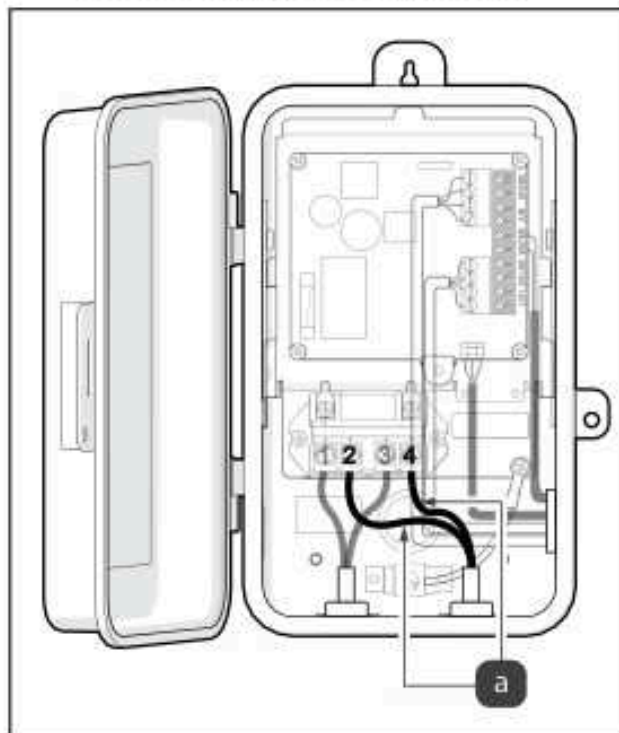

Figure 4. Connect Load Input Cables
9. Connect one "Load" input to Terminal 2 and the other to Terminal 4, see Figure 4 (a).